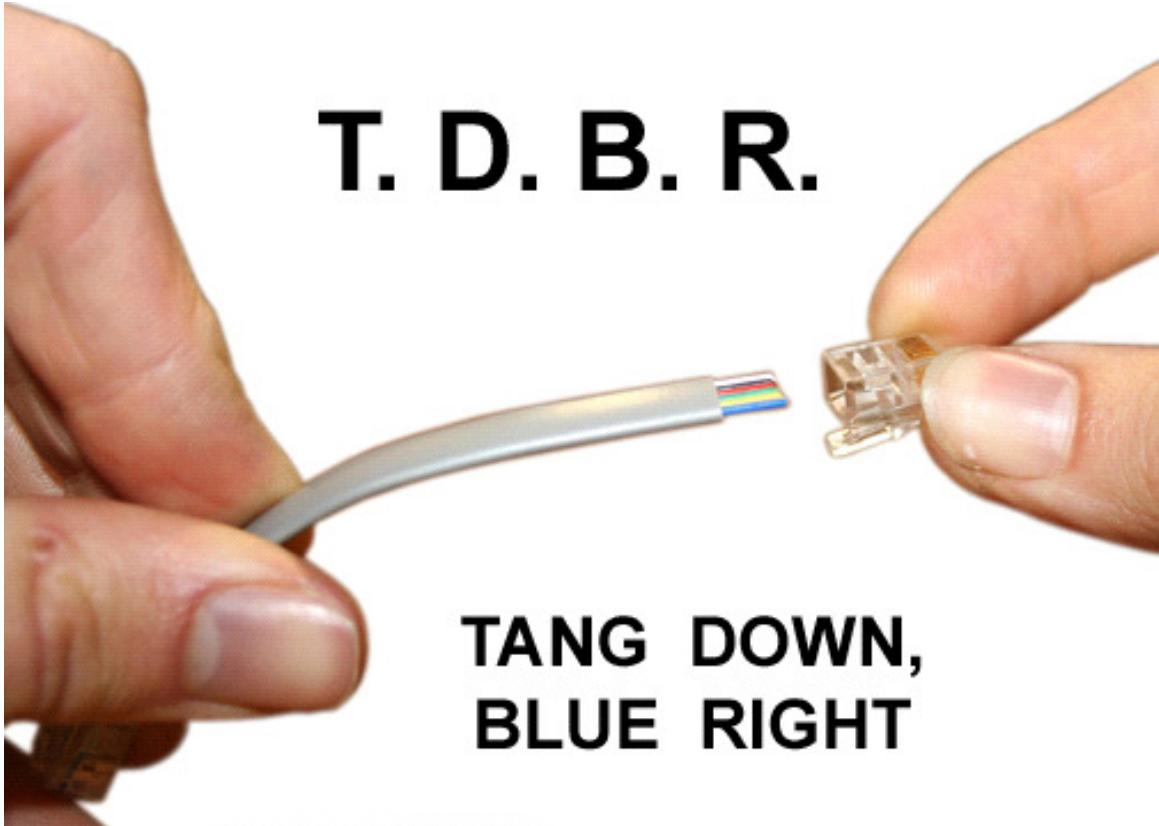

figure 09. Correct RJ Cable Orientation
NOTICE! RJ cable is quite rugged but take care not to cut or sharply bend (and fatigue) the cable in order to avoid errors from broken internal wires. Additionally, follow the proper cable construction techniques listed below and make sure that all the wires are installed in the correct orientation. (See figure 09.)
Step 5: Now take an un-crimped plug-end in your right hand and with the tang oriented on the bottom side, slide the outward facing end of the flat RJ cable into the slot in the un-crimped plug. Make sure it is not crooked and push it all the way into the un-crimped plug. (see figure 09.)